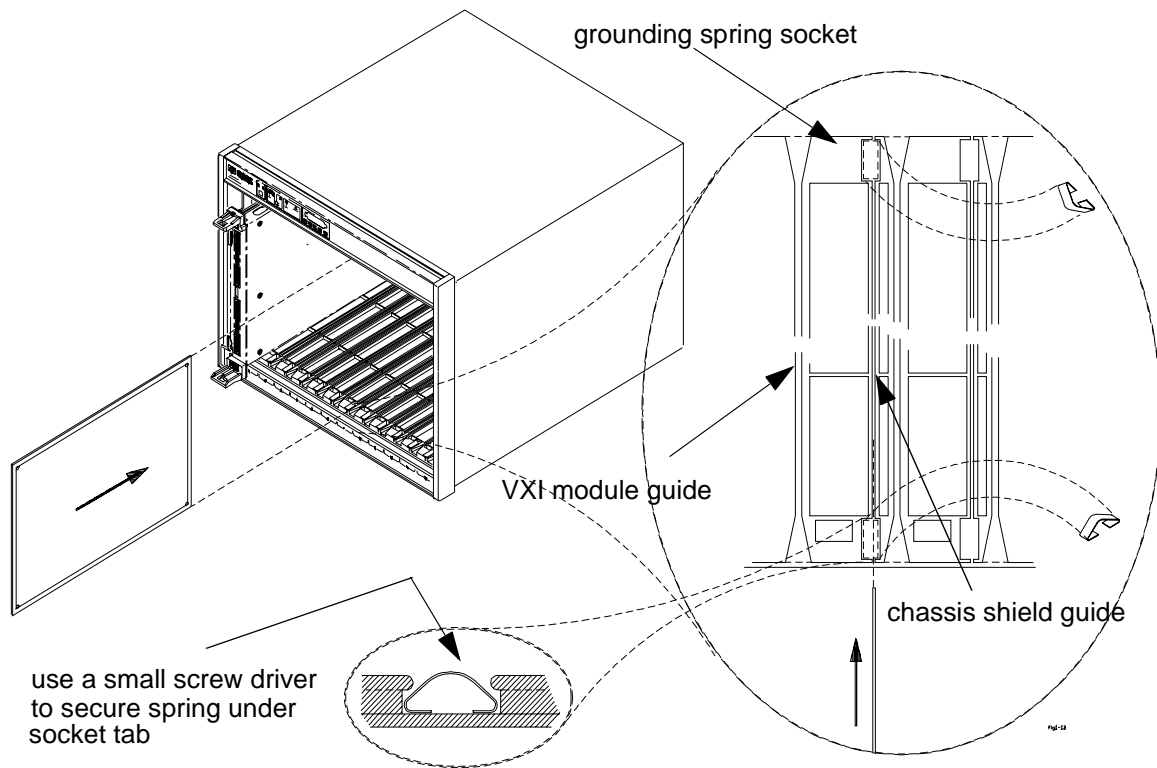

Figure B-13. Installing the Grounding Springs and Chassis Shield.
Note Each mainframe slot has top and bottom chassis shield guides (Figure B-13). Chassis shields should be installed on both sides of an instrument generating interference/noise, or installed on both sides of a sensitive instrument.
1. Insert grounding springs into the four sockets (two top, two bottom) along the shield guides (Figure B-13). Use a small flat blade screwdriver to secure each spring under the socket tab.